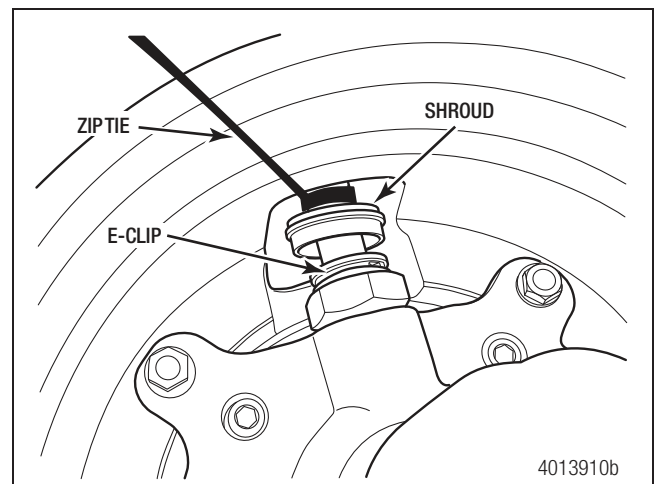

Figure 4.9
- Move back the plastic shroud from the oil line fitting and remove the E-clip from the groove. Figure 4.9.